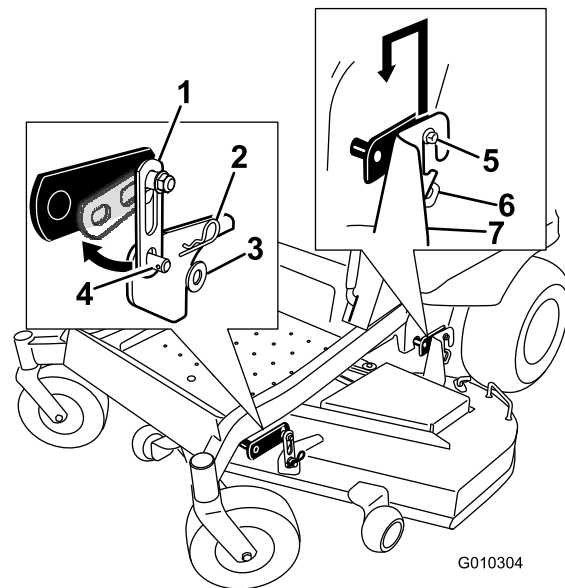

Figure 72
2. Remove the hardware from the front deck hangers on both sides of the deck (Figure 72).
3. Carefully lift the deck off the rear hanger bolts and lower the front of the mower deck to the ground (Figure 72).
5. Lift the rear of the mower deck and guide the hanger brackets over the rear hanger bolts (Figure 72).